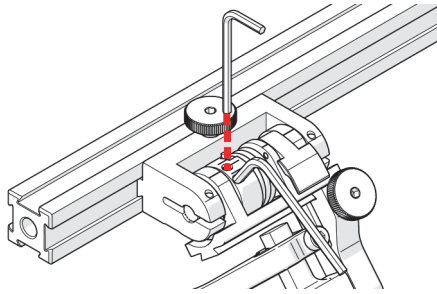

Figure 2-36 Insert hex wrenches
4. Place the 2 mm hex wrench into the force adjustment screw (see Figure 2-36 on page 62).